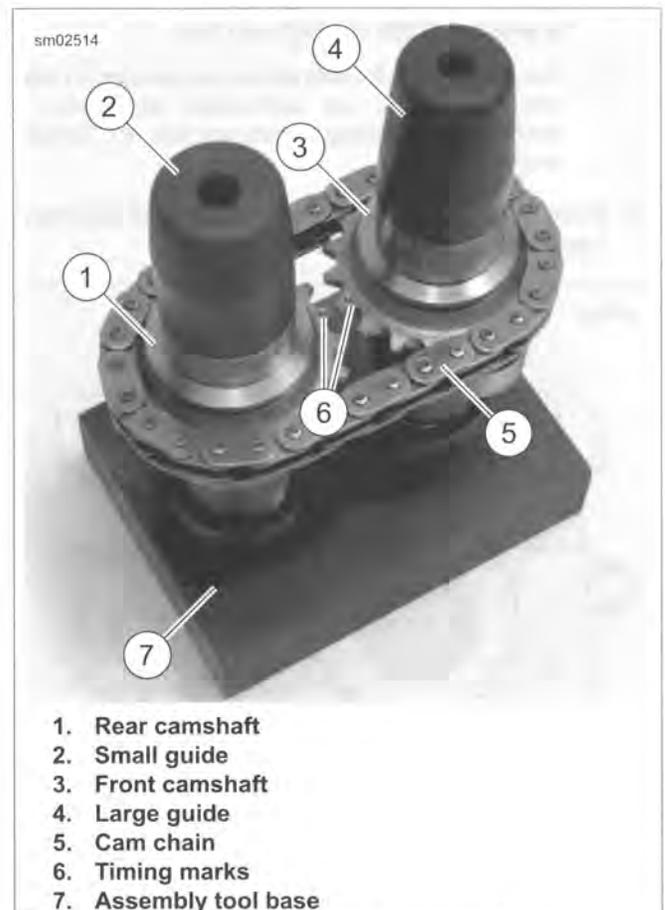
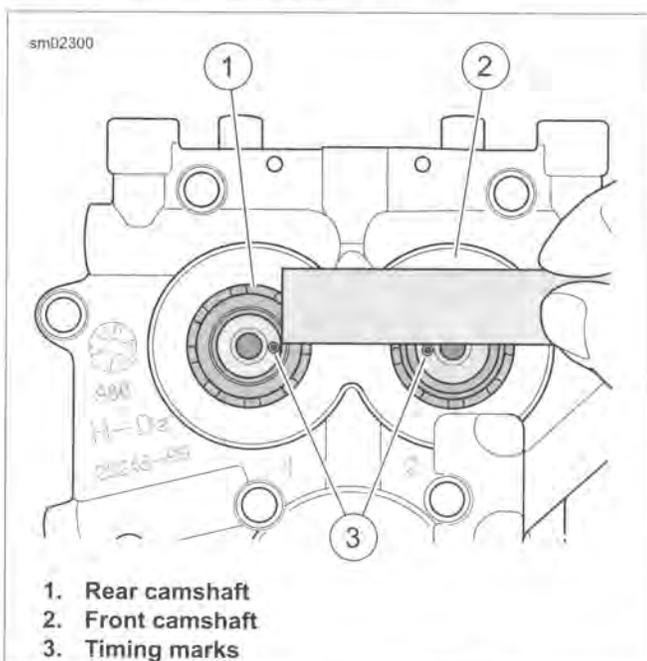

Figure 3-94. Camshaft Assembly Tool
Figure 3-95. Verify Alignment of Timing Marks
3. See Figure 3-94. Obtain CAMSHAFT ASSEMBLY TOOL (Part No. HD-47956). Place crankcase side of camshaft/cam chain assembly into assembly tool base (7) while maintaining cam timing mark (6) alignment.
4. Place small guide (2) on rear camshaft (1). Place large guide (4) on front camshaft (3).
8. See Figure 3-95. Using a straightedge, verify that the timing marks are in alignment. If they are not, then the camshafts must be removed, realigned and reinstalled.